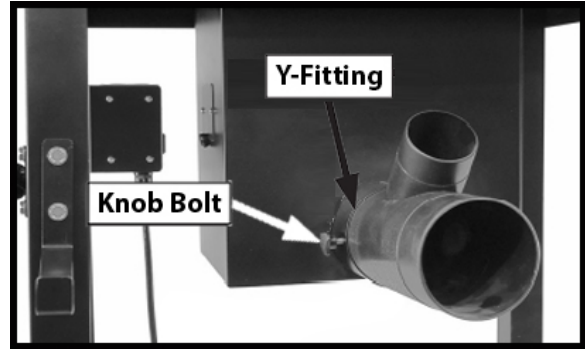

Figure 31
19. Install the Y-dust fitting as in (Fig.31) over the dust port and secure it with (1) ¼-20 knob bolt.